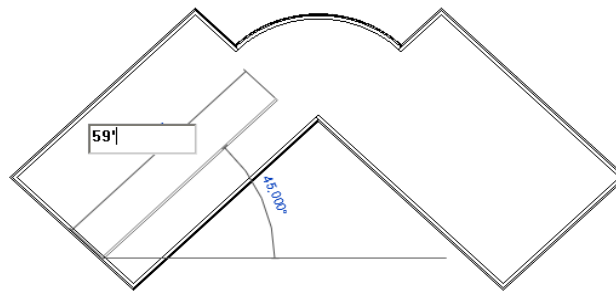

Figure 3-70 Sketching the first interior wall of the Club project
4. Move the cursor 45 degrees upward to the right. When a dashed line appears, enter the value **59'(17983 mm)**, as shown in Figure 3-70 and then press ENTER.